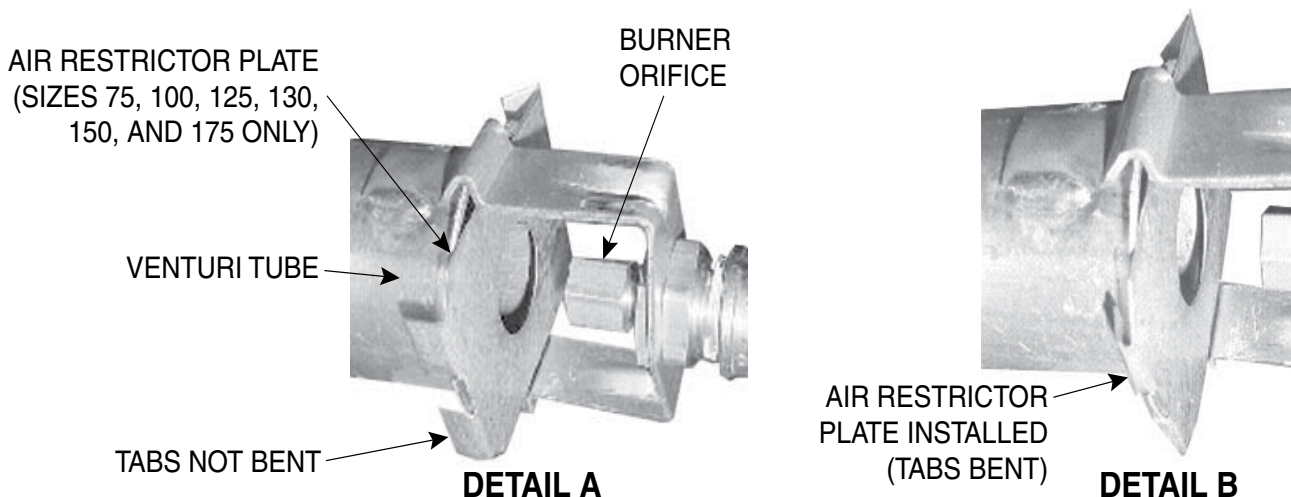

Figure 2. Burner Orifice and Air Restrictor Plate
- a. Carefully remove existing burner orifice (see Figure 2, DETAIL A).
- (1) See Figure 2 to locate air restrictor plate held in place on venturi tube by its bent tabs.
- (2) Use pliers to carefully unbend tabs as shown in Figure 2, DETAIL A and remove air restrictor plate.
- (1) Refer to Table 1 to select correct air restrictor plate. Slide plate in place over venturi tube opening so that its 45-degree angle is hooked over rear of venturi tube (see Figure 2).
- (2) While holding plate in position, use pliers to carefully bend tabs to lock plate in place (see Figure 2, DETAIL B). Ensure that air restrictor is aligned and secure.
- b. Install replacement burner orifice (see Figure 2, DETAIL A).